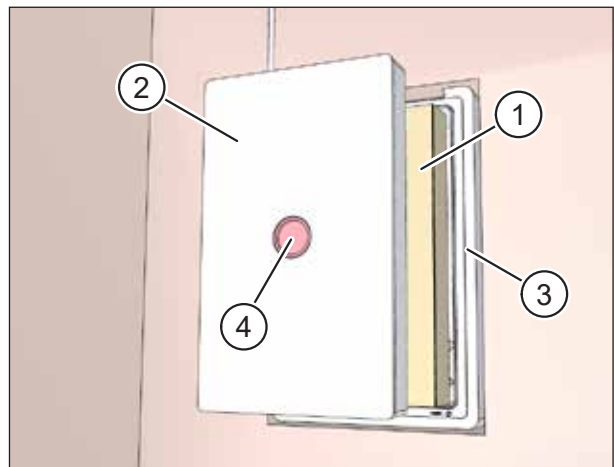

Fig. 21: Inserting the cardboard insert and plaster cover
- ▶ Insert the cardboard insert (item 1 in Fig. 21) into the wall box (item 3 in Fig. 21) as far as it will go.
- ▶ Insert the plaster cover (item 2 in Fig. 21) into the wall box (item 3 in Fig. 21) as far as it will go.
- ▶ Check that the red signal cover (item 4 in Fig. 21) is seated in the plaster cover.
- ▶ Check that the plaster cover (item 1 in Fig. 21 on page 26) is inserted before filling with foam.